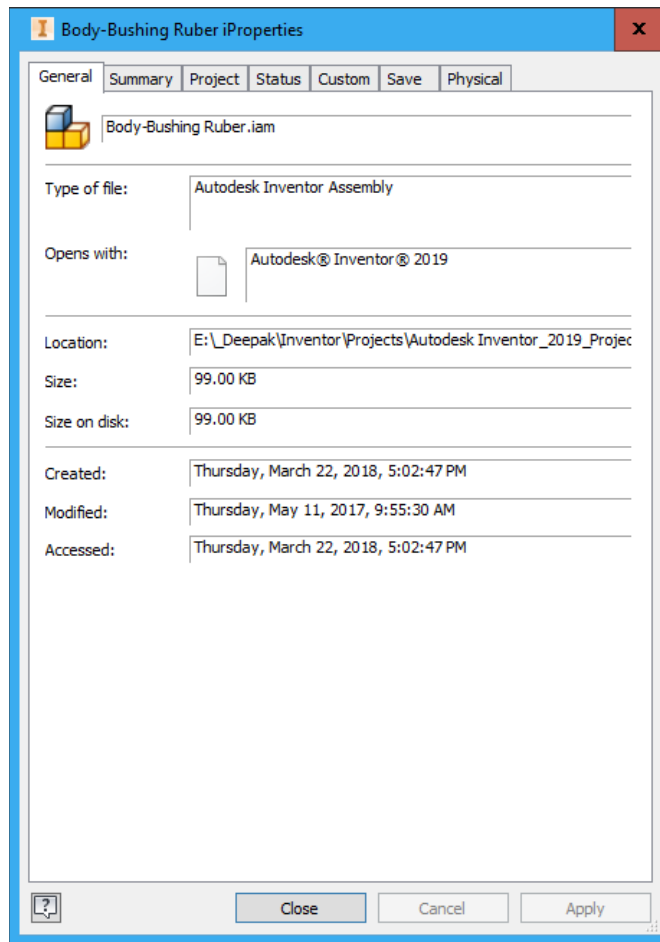

Figure 17-10 The iProperties dialog box
The properties of the component created in the Assembly environment in Autodesk Inventor are known as iProperties. iProperties can be used for creating reports, updating BOM, updating title block, and to display all the related information of the component created. The options of iProperties are internally linked with the related component. Therefore, whenever you update information in iProperties, it will be reflected in the related component. You can invoke this tool by choosing the **iProperties** option from the **File Menu**. Alternatively, right-click on the name of the component in the **Browser Bar** of the current assembly and choose **iProperties** from the shortcut menu displayed; the **iProperties** dialog box of the corresponding component will be displayed, as shown in Figure 17-10. The tabs in this dialog box are discussed next.
*If the component is saved at any location after it is created then the **iProperties** dialog box displayed will be different from the one shown in Figure 17-10.*